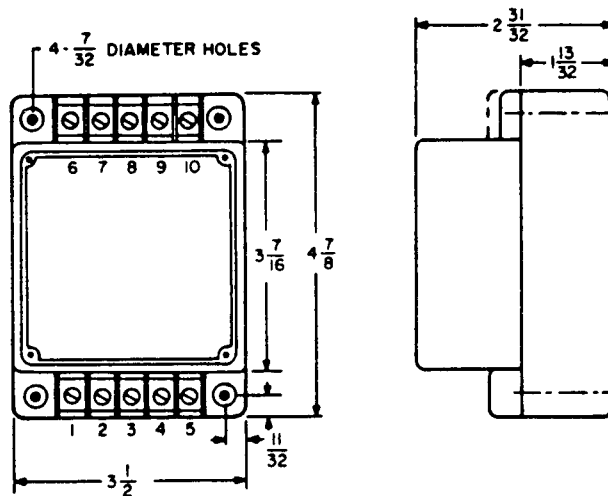

Figure 13b: Outline Dimensions Type 96
- f. Slowly raise the current in Branch B, increasing the fundamental content. The 87T will return to the trip condition (output contact closed, target displayed) when the percentage of 2nd harmonic falls below the set value. This value may be read directly from the curve in Figure 13b. Since the Branch A current was originally set to 1.0A, the vertical scale may be read as the current in Branch B.